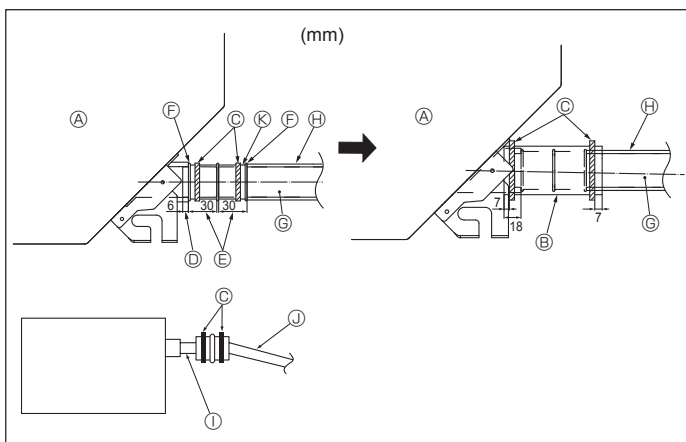

Fig. 3-5
1. Connect the drain socket (supplied with the unit) to the drain port. (Fig. 3-5) (Fix the tube using PVC adhesive then secure it with a band.)